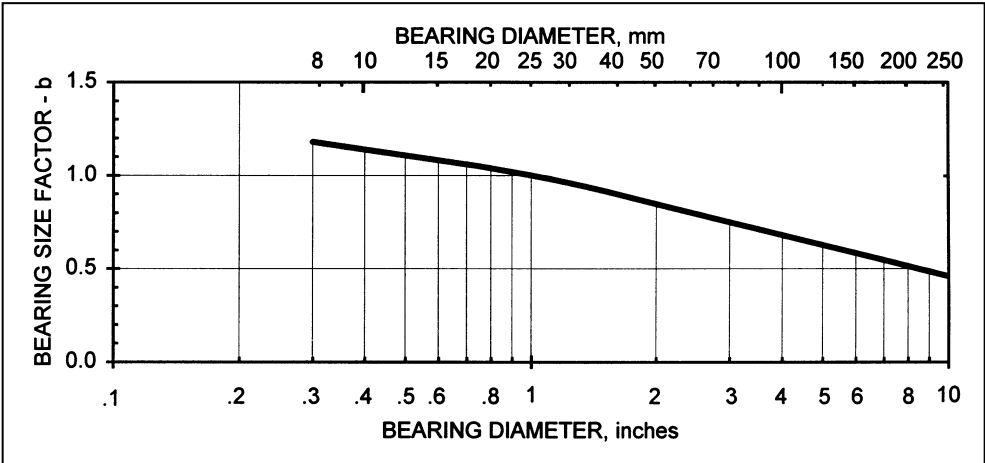

Figure 5-7. DX Bearing Size Factor – b
- b = bearing size factor, Figure 5-7